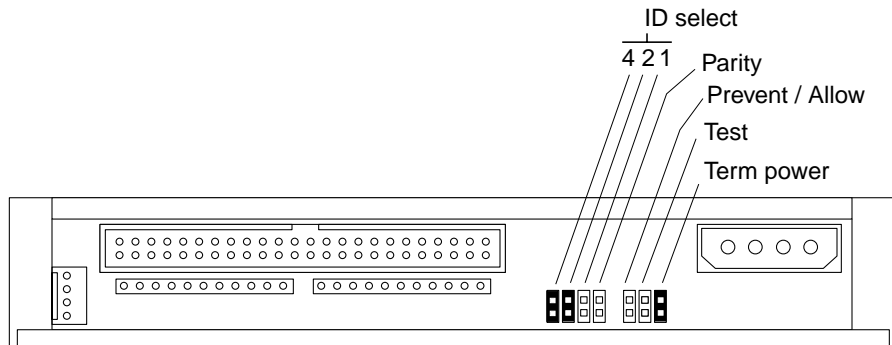

FIGURE 9-5 Jumper Settings for SPARCstation 5 CD-ROM Drive
2. Make sure the jumper settings on the replacement drive match those shown in FIGURE 9-5.